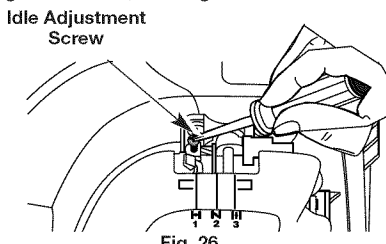

Fig. 26
The idle speed of the engine is adjustable. An idle adjustment screw is between the air filter cover and the engine starter housing (Fig. 26).
- Release the throttle trigger and let the engine idle. If the engine stops, insert a small phillips screwdriver in between the Air Filter Cover and the Engine Cover (Fig. 26). Turn the idle speed screw in, clockwise, 1/8 of a turn at a time (as needed) until the engine idles smoothly.